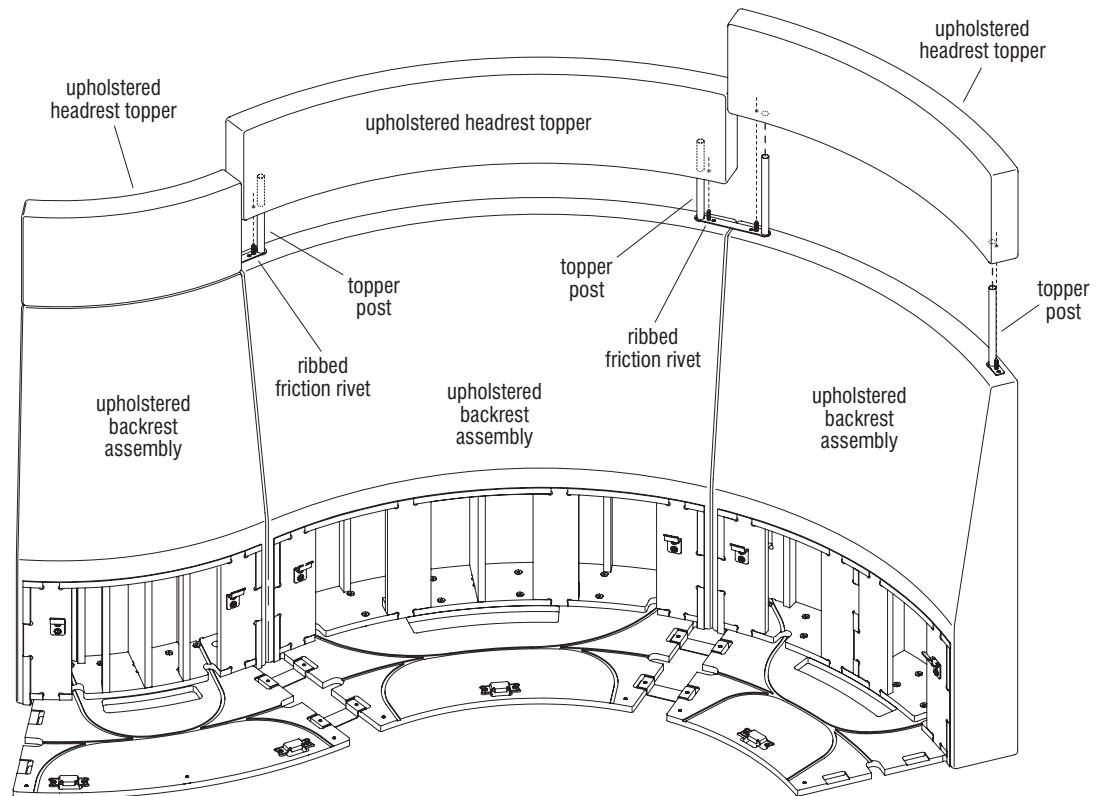

Figure 2
11. Align the ribbed friction rivets with the corresponding holes at the underside of the upholstered headrest topper (Figures 2 & 3).
12. Firmly push the topper downwards onto the ribbed friction rivets. If the topper does not seat properly, place a clean cloth over the topper and use a weighted rubber mallet to tap the topper down. **DO NOT** strike the topper too hard as this may damage the foam inside the topper (Figures 2 & 3).